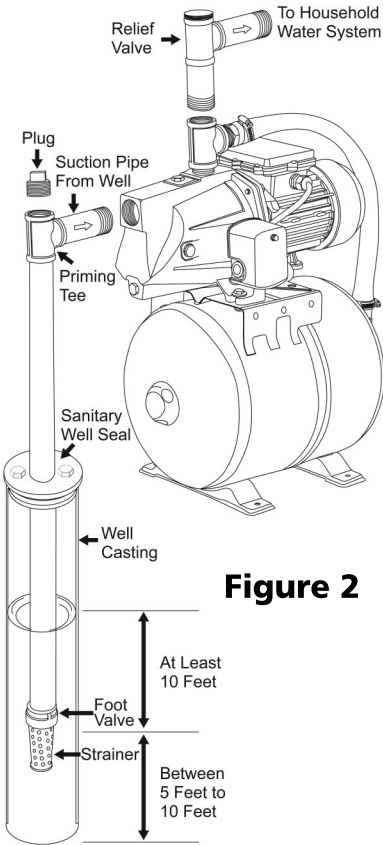

Figure 2
3. Install a priming tee with a plug on the suction pipe from the water source as shown in Figure 2. Install a union to allow the pump to be easily disassembled from the piping for easy servicing. ***Make sure Teflon tape or pipe joint compound is used on all joints. The suction pipe should be at least 1 ¼"***